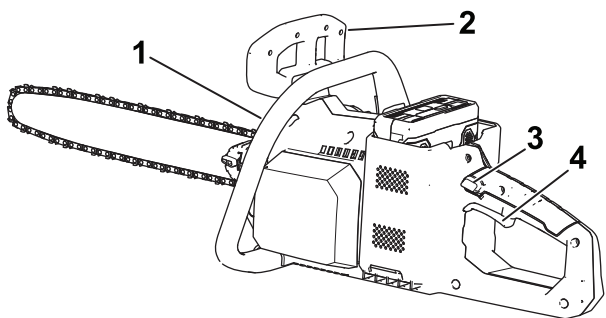

Figure 9
7. With 1 hand on the front handle and the other on the rear handle, press the trigger lock, then squeeze the trigger (Figure 9).